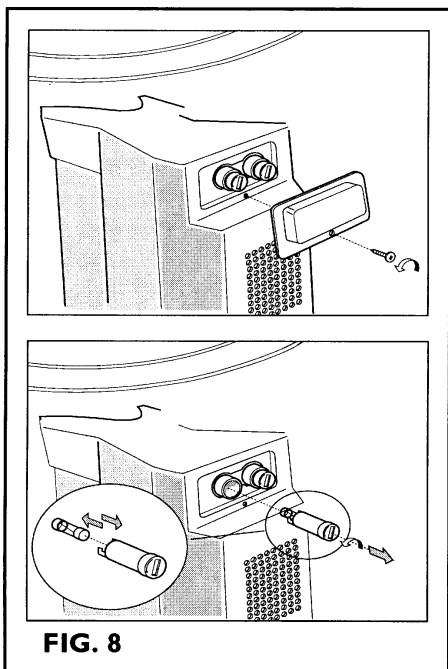

FIG. 8
- Remove cover and check fuses. Fig. 8.